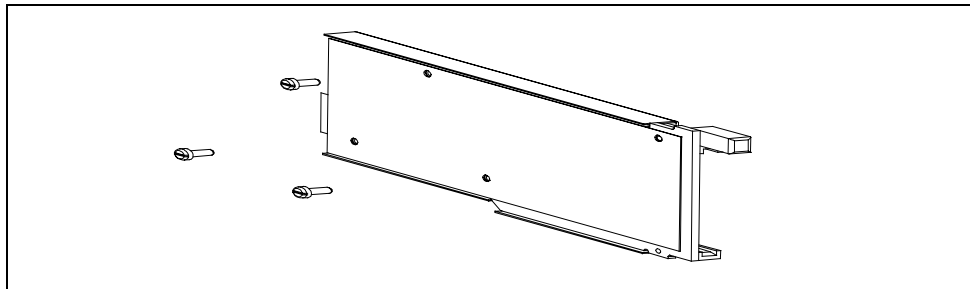

Figure 2-10
24. Unscrew the 3 fixing screws from the PCMCIA sub-assembly. (See Figure 2-10).